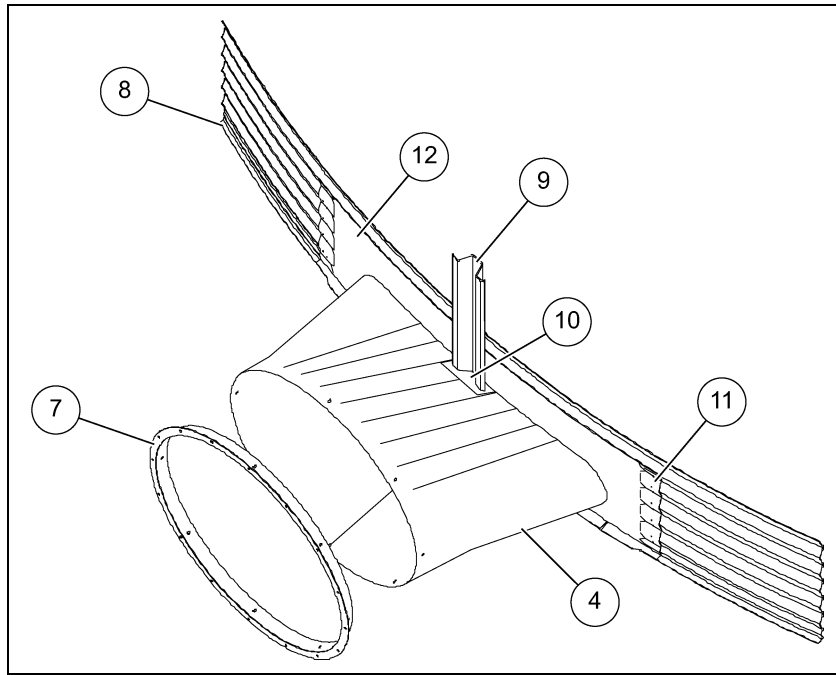

Figure 4
3. Apply a generous bead of caulk around the perimeter of the opening. Place transition assembly over the transition opening. Fasten the side of the transition collar to the bin using self-tapping screws. Field drill the top of the transition collar to line up with the plenum bolt holes in the bin. (See Figure 4 on Page 3.)